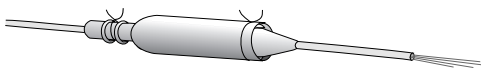

Figure 26. Suture lead/extension.
5. Place non-absorbable sutures around both ends of the boot in the channeled areas of the connection (Figure 26).